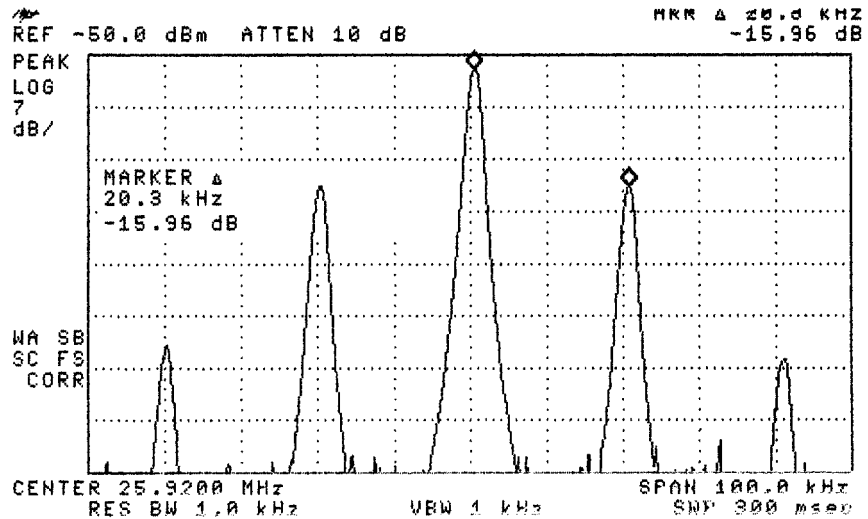

Figure 3-10 Carrier to Sideband Ratio Example
- 34 Adjust the OmniBER's jitter amplitude (approximately 7.52 UI) until the 4th **Bessel Null** is observed on the Spectrum Analyzer i.e 4th dip in the carrier level (see Figure 3-10). For STM-1 use 7.52 4th null, STM-4 use 11.52 UI, 6th null. For STM-16 use 9.52 UI, 5th null.